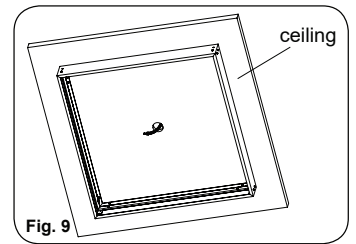

Fig. 9
2. Mount the frame on the ceiling with screws. (Fig. 9) Make sure that the wire is long enough for Step 4.